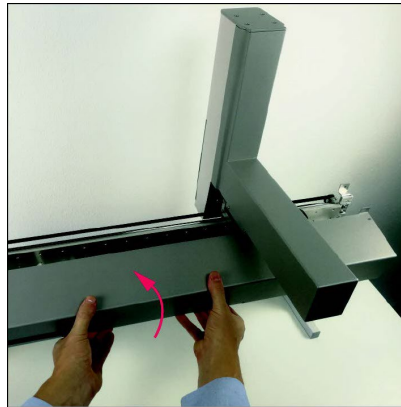

Figure 108: X-beam Rear Cover Assembly 2
2. Gently angle the rear cover onto the X-Rail frame. Confirm that the mid hooking tabs on the rear cover nest behind the middle screw positions. See Figure 108.